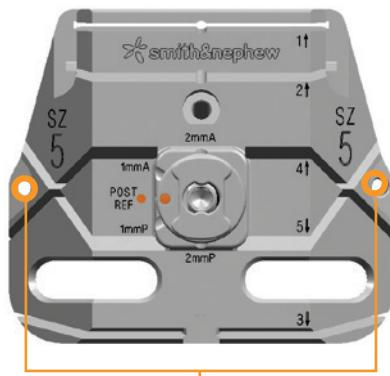

Figure 21
- 3 Use two 45mm rimmed SPEED PIN° through the medial and lateral fixation holes on the cutting block (Figure 21).